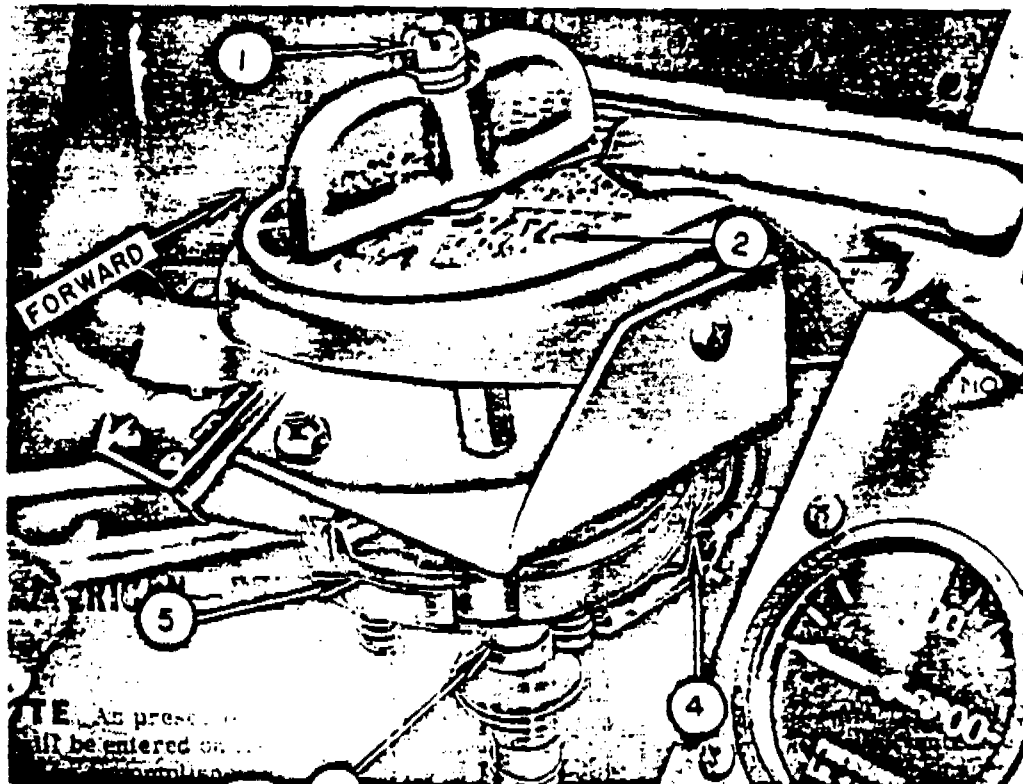

Figure 1
a. Locate the fuel selector switch in the pilot's cockpit. Remove the control handle by removing the nut and washer securing it to the rod. Remove the stic dial from the switch bracket. (See figure 1:)